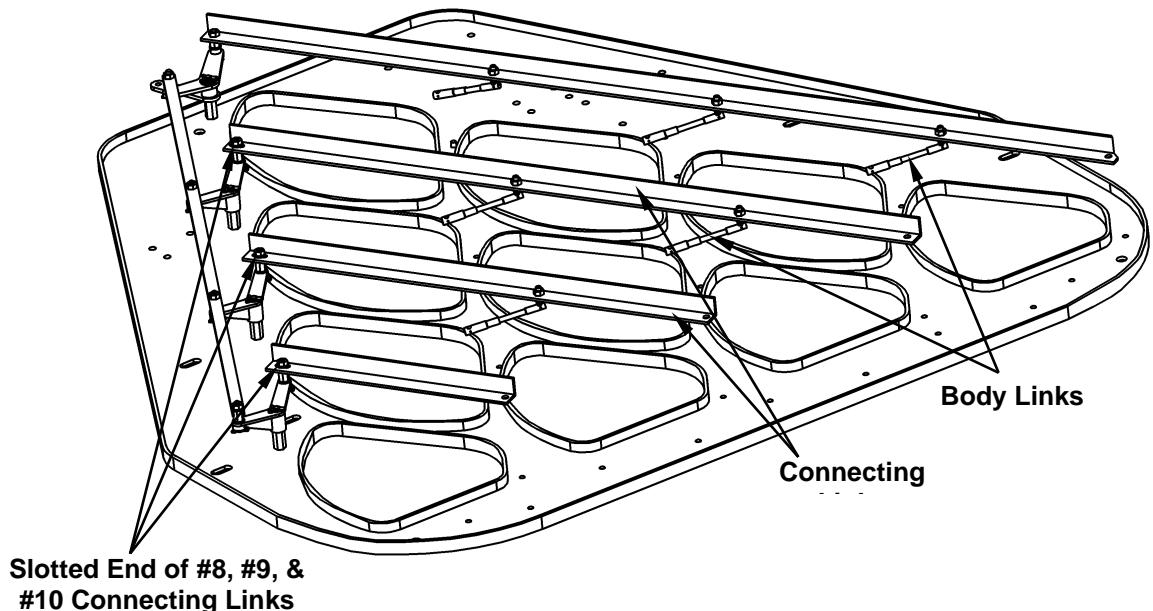

Figure 4.2-20
2. Disconnect the 6 body links that connect the respot cells to the #7, #8 & #9 connecting links (see Figure 4.2-20).